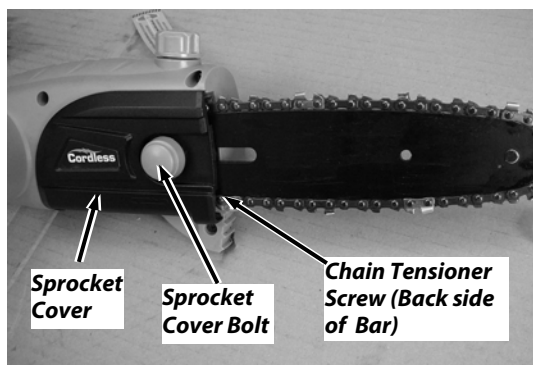

Figure 19
1. Loosened the Sprocket Cover Bolt (Spanner Wrench) so it is only finger tight (Figure 19).